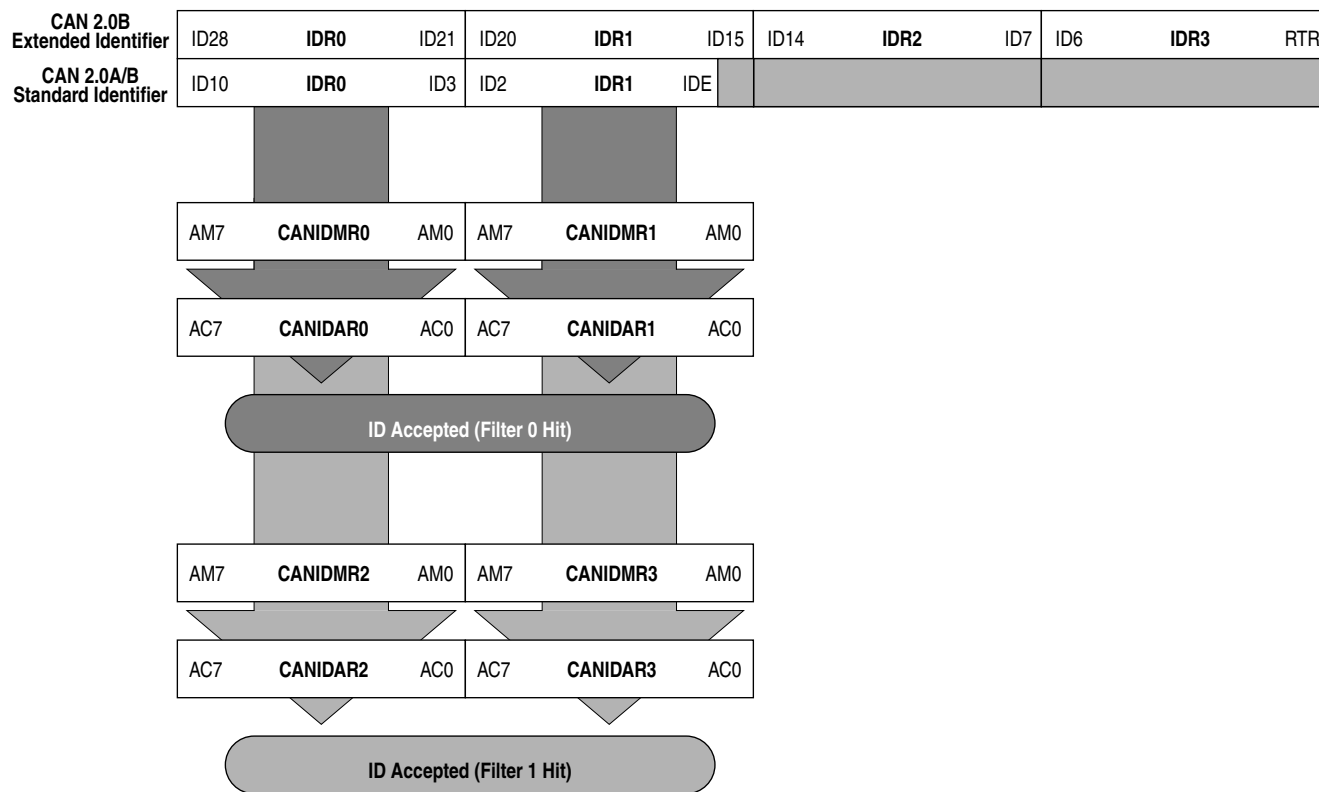

Figure 12-40. 16-bit Maskable Identifier Acceptance Filters
- b) the 11 bits of the standard identifier, the RTR and IDE bits of CAN 2.0A/B messages. Figure 12-40 shows how the first 32-bit filter bank (CANIDAR0–CANIDA3, CANIDMR0–3CANIDMR) produces filter 0 and 1 hits. Similarly, the second filter bank (CANIDAR4–CANIDAR7, CANIDMR4–CANIDMR7) produces filter 2 and 3 hits.